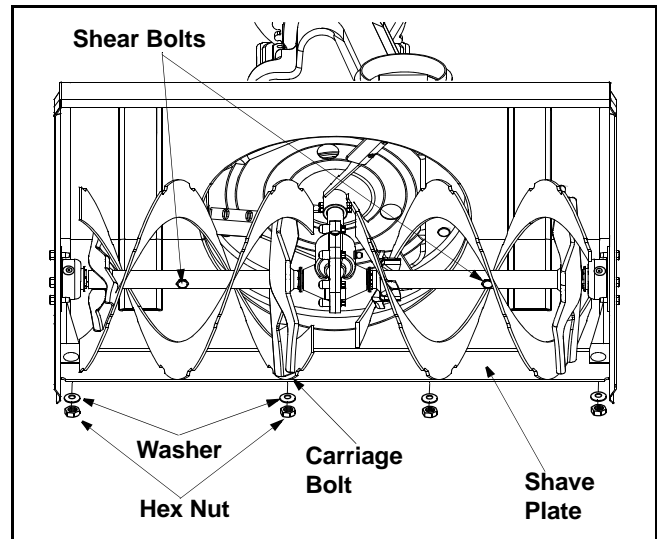

Figure 15
- To remove the shave plate, remove the carriage bolts, belleville washers and hex nuts which attach the shave plate to the snow thrower housing. See Figure 15.